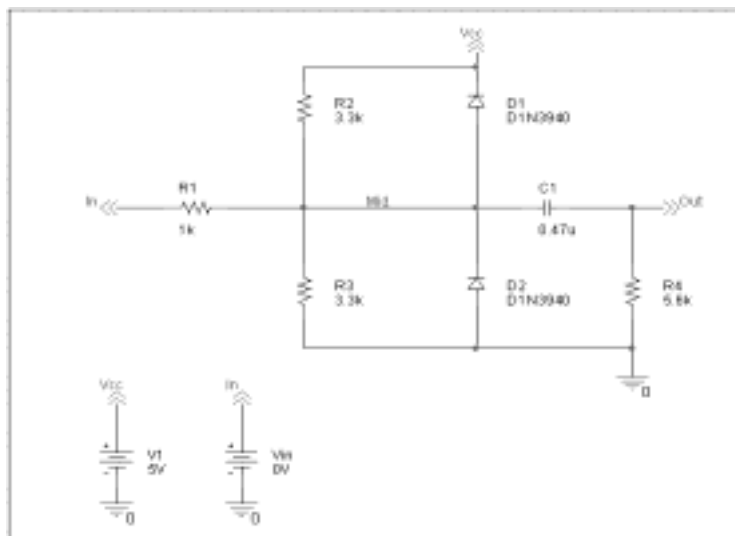

Figure 2 Diode clipper circuit.
This section describes how to use OrCAD Capture to create the simple diode clipper circuit shown in Figure 2.
- 6 Move the pointer to the correct position on the schematic page (see Figure 2) and click to place the first part.
- You will change part names and values that do not match those shown in Figure 2 later in this section.
- 3 Follow similar steps as described for the diodes to place the parts listed below, according to Figure 2. The part names you need to type in the Part name text box of the Place Part dialog box are shown in parentheses:
- resistors (R)
- capacitor (C)
- 6 Place the off-page connector parts according to Figure 2.
- 7 To place the ground parts (0), click the GND button on the tool palette.
- 9 Place the '0' ground part from SOURCE .OLB as shown in Figure 2.
- 6 Continue connecting parts until the circuit is wired as shown in Figure 2 on page 54.
Label the off-page connectors as shown in Figure 2 on page 54.
- 5 Continue naming the remaining parts until your schematic looks like Figure 2 on page 54.
- 4 Continue changing the Part Value properties of the parts until all the parts are defined as in Figure 2 on page 54.
Your schematic page should now have the same parts, wiring, labels, and properties as Figure 2 on page 54.